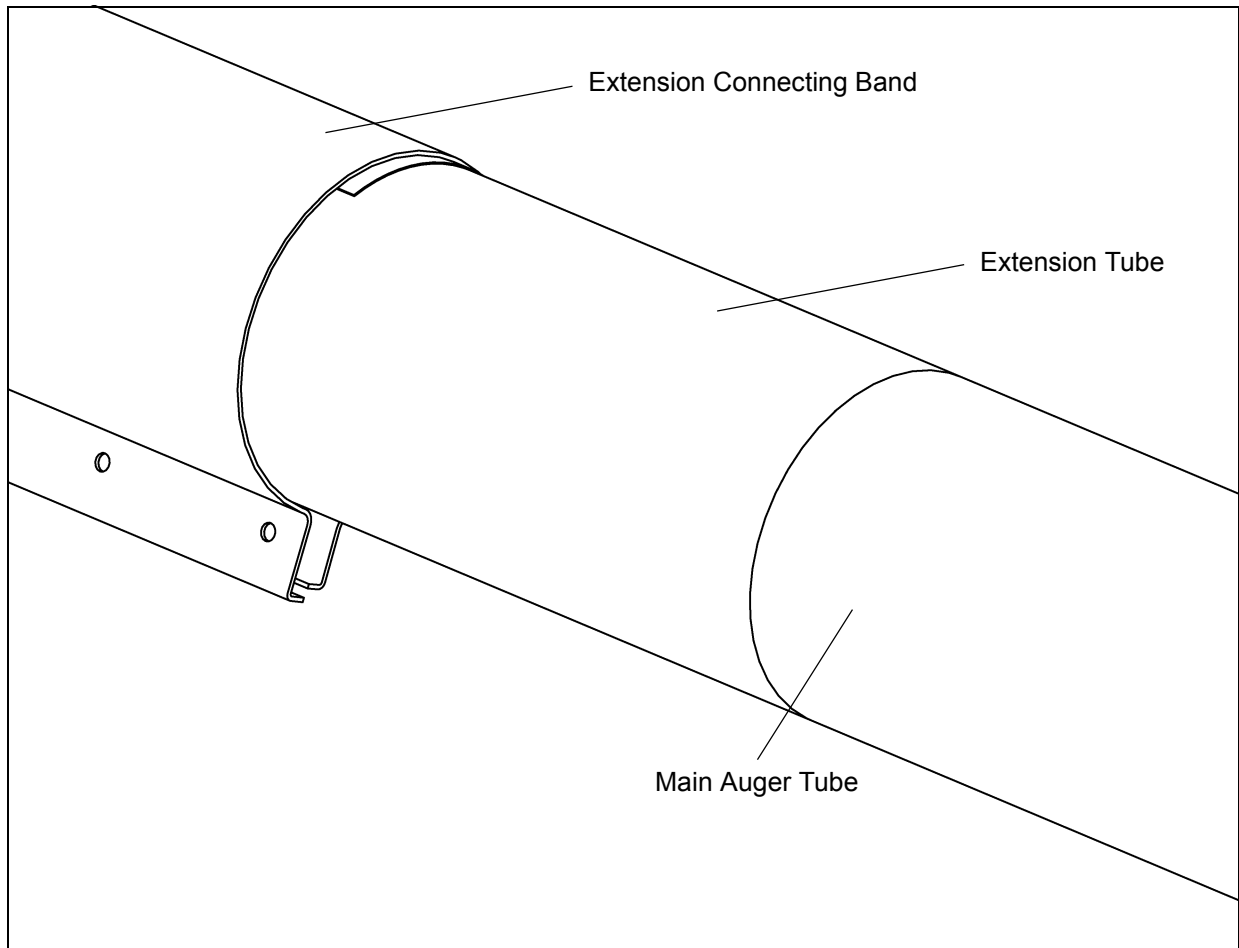

Figure 4C
3. Slide the extension tube over the extension flight, making sure the tube is pressed securely against the main auger tube (*Figure 4C*).